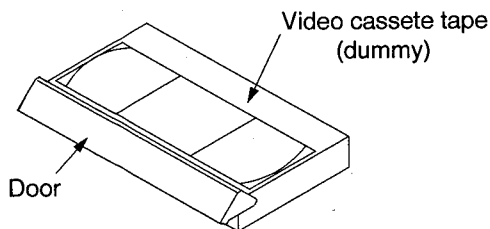

Fig. 3
- 4 Remove the three screws (a), (b) and (c) shown in Fig. 3.